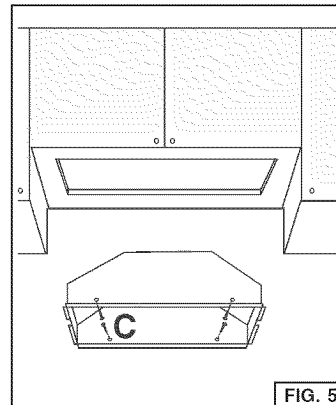
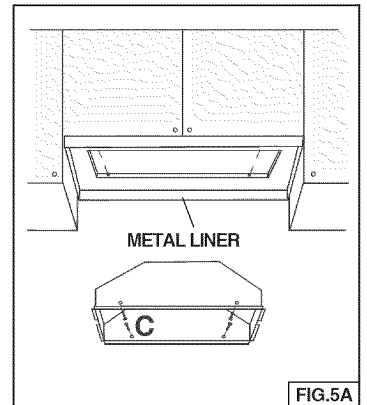

FIG. 5
FIG.5A
4. **NOTE:** For installations where the Power Pack is less than 30" above cook top, it is recommended that the Power Pack be mounted into a metal liner or non-combustible material. This will allow easier cleaning and provide protection to the cabinetry (Fig.5A).
6. Insert the hood in the cabinet (Fig. 5) or metal liner (Fig. 5A) and secure with the (4) "C" mounting sheet metal screws.
(Fig. 5 - wood bottom installation; recommended thickness 1/2"-3/4").